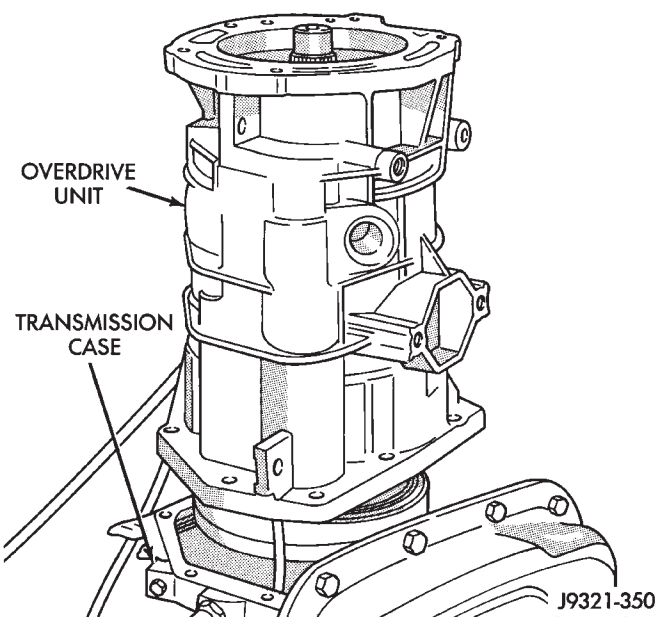

Fig. 3 Overdrive Unit Removal/Installation
- (4) Lift overdrive unit up and off transmission case and intermediate shaft (Fig. 3).